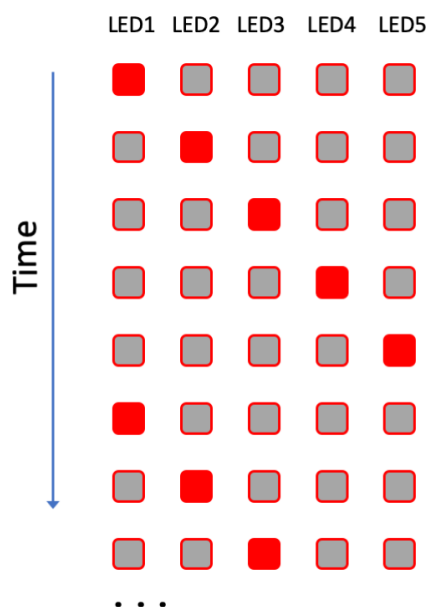

Figure 1: One lit LED moving from LED1 towards LED5
2. Every 1 sec, the lit LEDs moves, going from LED 1 to LED 2, LED 2 to LED3 etc and LED 5 back to LED 1. This is shown in Figure 1.